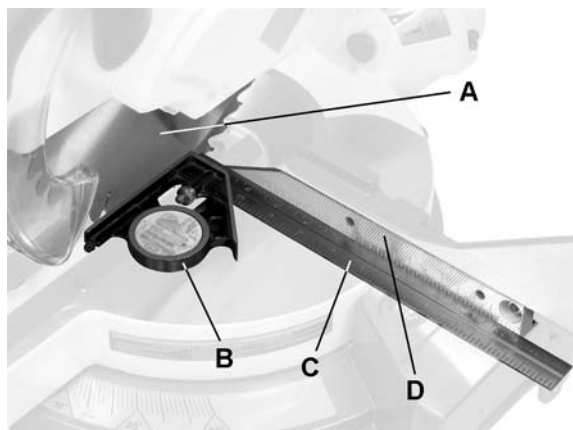

Figure 17
3. Using a *square*, lay the heel (B, Fig. 17 of the square against the *blade* (A) and the *ruler* (C) against the *fence* (D).